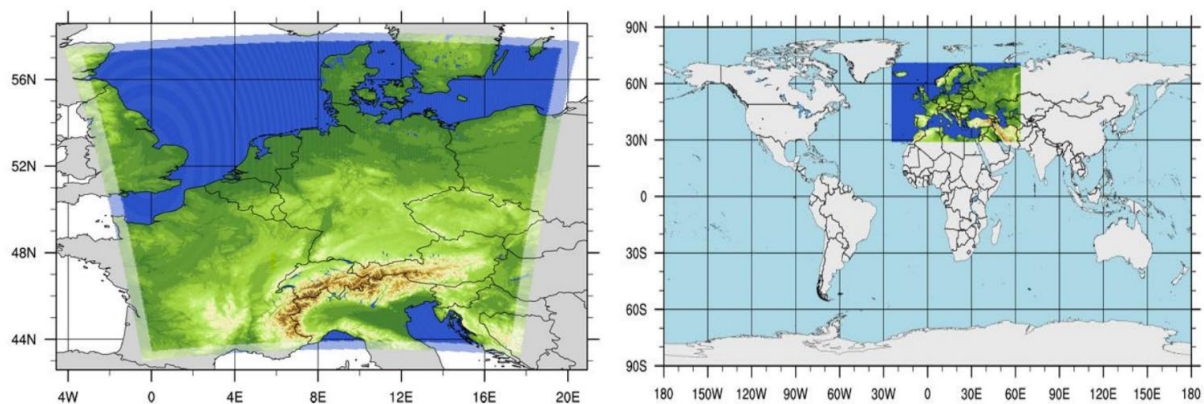

Figure 10 ICON-D2 & ICON-EU domain
1. ICON-D2 2.2 km² for Central-Europe (Figure 10 Left)
2. ICON-EU 6.5 km² for Europe (Figure 10 Right)